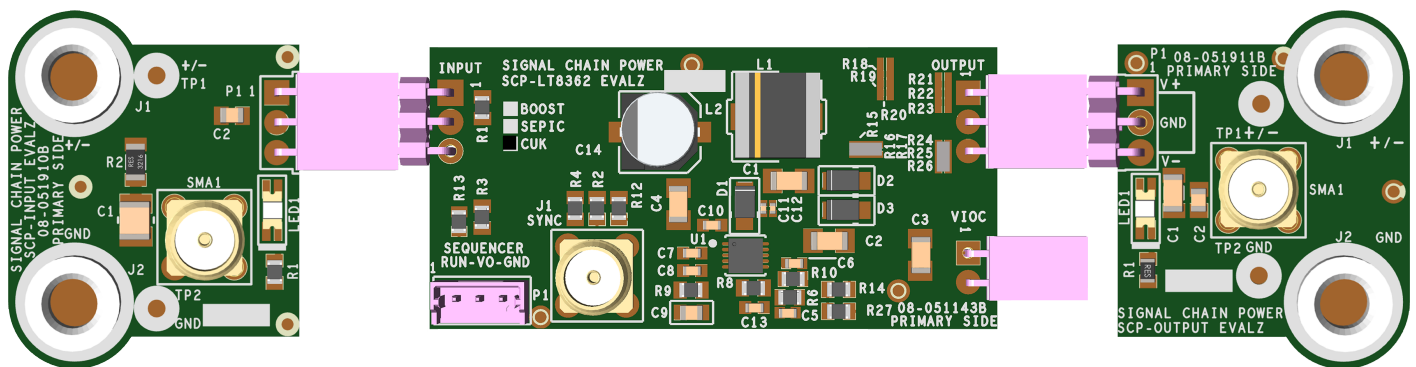

Figure 2. Proper Measurement Equipment Setup (Use SMA connectors for Measuring Input or Output Ripple)
2. Connect the SCP-INPUT-EVALZ and SCP-OUTPUT-EVALZ boards to the SCP-LT8362-I-EVALZ (refer to Figure 2) and connect the input board to a voltage source, V_{SOURCE} . Connect the output board to a voltmeter or dynamic load. Slowly raise the input voltage until the SCP-LT8362-I-EVALZ powers up into regulation and sweep V_{SOURCE} through the desired range of operation.